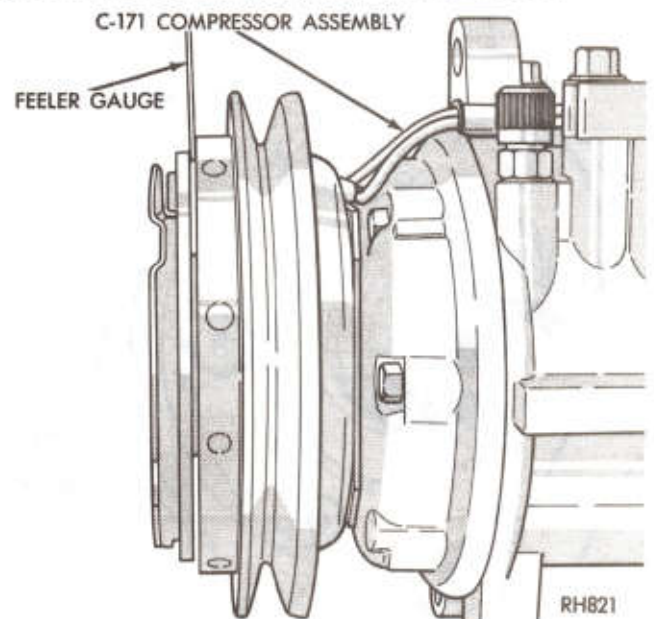

Fig. 8—Measuring Air Gap, C-171 Compressor
(6) Install front plate assembly onto shaft making sure the key enters keyway in front plate assembly hub.
(7) With the front plate assembly tight against the shims, measure the air gap between front plate and pulley face with feeler gauges (Fig. 8). The minimum air gap should be between .020 and .035 inch (0.5 and 0.9mm). If proper air gap is not obtained, add or subtract shims until desired air gap is obtained.
(8) Install lockwasher and shaft nut. Tighten to 155 ± 20 in. lbs. (17.5 ± 2 N·m) using torque wrench and spanner wrench tool C-4563.